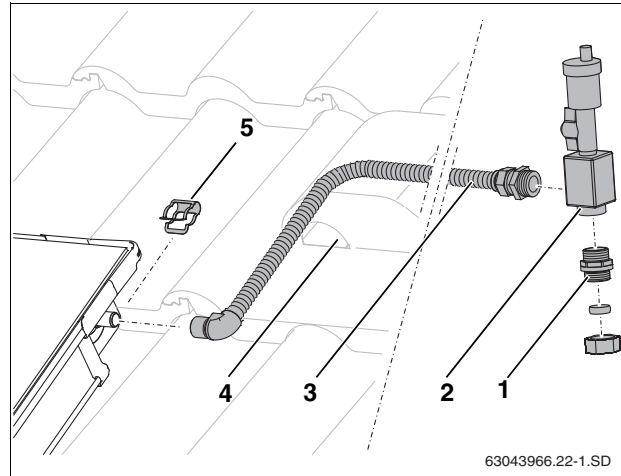

Fig. 52 Fitting the air vent valve under the roof
- Push connection pipe (Fig. 52, [3]) onto the supply connection of the collector and secure in place using the clip (Fig. 52, [5]).
- Feed connection pipe together with the sensor cable through the penetration (Fig. 52, [4]) into the attic. The supply piping must be sloped away from the collectors toward the air vent.
- Firmly screw connection pipe (Fig. 52, [3]) and double nipple (Fig. 52, [1]) into air vent body (O-ring gasket).
- Hook the connection pipe to double nipple with compression fitting (Fig. 52, [1]).